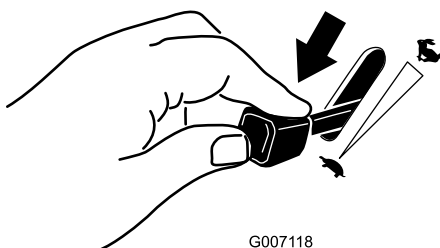

Figure 26
1. Move the throttle lever to the Slow position (Figure 26).